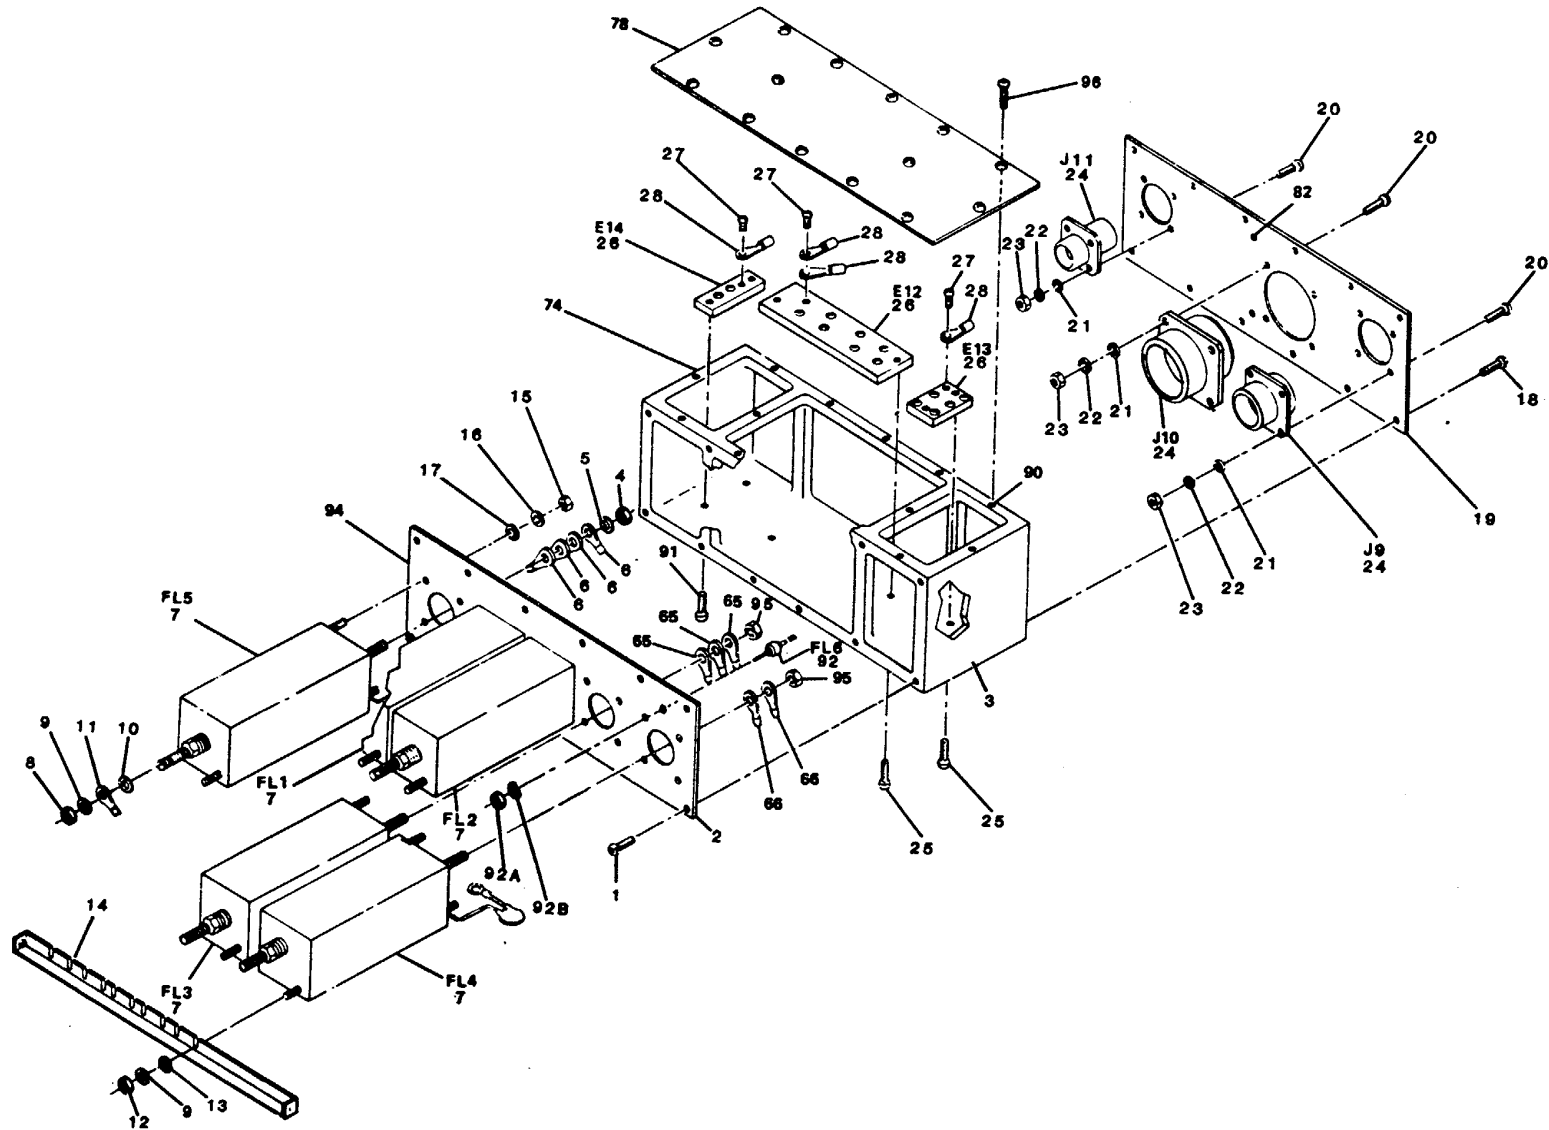

Figure 5-4. Filter FL1 through FL5 Replacement
- (1) Remove bottom cover (3) in accordance with paragraph 5-10a.
- (2) Remove the six screws (7), flat washers (8), and lock washers (9) that secure the RFI filter assembly (6) to the rear of the chassis.
- (3) Remove the two screws (10) that secure the filter bracket (11) to the sides of the chassis.
- (4) Slide the RFI filter assembly (6), with filter bracket attached, toward the front panel to clear the connectors from the rear panel, then turn the assembly sideways until the filter bracket is free of the chassis. Note that the connection to filter FL6 (12) is hidden behind FL4 (63).
- (5) Refer to figure 5-4. Tag the wires on the RFI filter assembly (6) for proper identification during reconnection. Remove nut (8), lock washer (9), flat washer (10), terminal lug (11), and wiring from FL1 through FL5 (7).
- (6) Tag wire connected to FL6 (item 92, figure 5-4) for proper identification during reconnection, then unsolder wire.
- (7) Refer to figure 5-3. Remove the RFI filter assembly (6) from the chassis. Refer to figure 5-4. Remove two nuts (12) two flat washers (9) and two lock washers (13) that secure filter bracket (14) to each filter and remove filter bracket (14).
- (1) Place the RFI filter assembly (6) in position for soldering the wire to filter FL6 (92) as tagged during removal.
- (2) Solder the wire to FL6 (92).
- (3) Refer to figure 5-4. Secure filter bracket (14) to filters FL1 through FL5 (7) with two lock washers (13), two flat washers (9) and two nuts (12) at each filter.
- (4) Refer to figure 5-4. Reconnect wiring to filters FL1 through FL5 (7) as tagged during removal. Secure terminal lug (11) with nut (8), lock washer (9), and flat washer (10) at each filter.
- (5) Carefully rotate the RFI filter assembly and install it into its correct position inside the chassis.
- (6) Secure the filter bracket (11) to the sides of the chassis with two screws (10).
- (7) Secure the RFI filter assembly to the rear panel with six screws (7), flat washers (8), and lock washers (9).
- (8) Install the bottom cover (3) in accordance with paragraph 5-11c.
- (9) Refer to section V of this chapter.